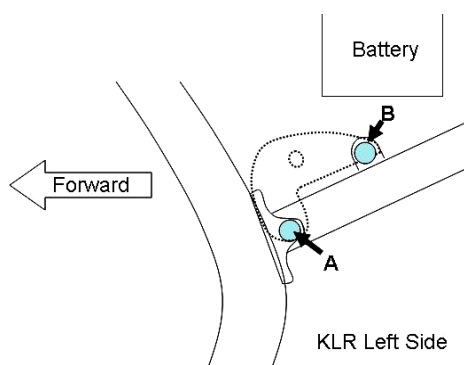

Figure 1
Install on left side of frame replacing existing fasteners. Refer to figures 1 and 2:
1. Remove bolt at "A" and screw at "B" (Figure 1).